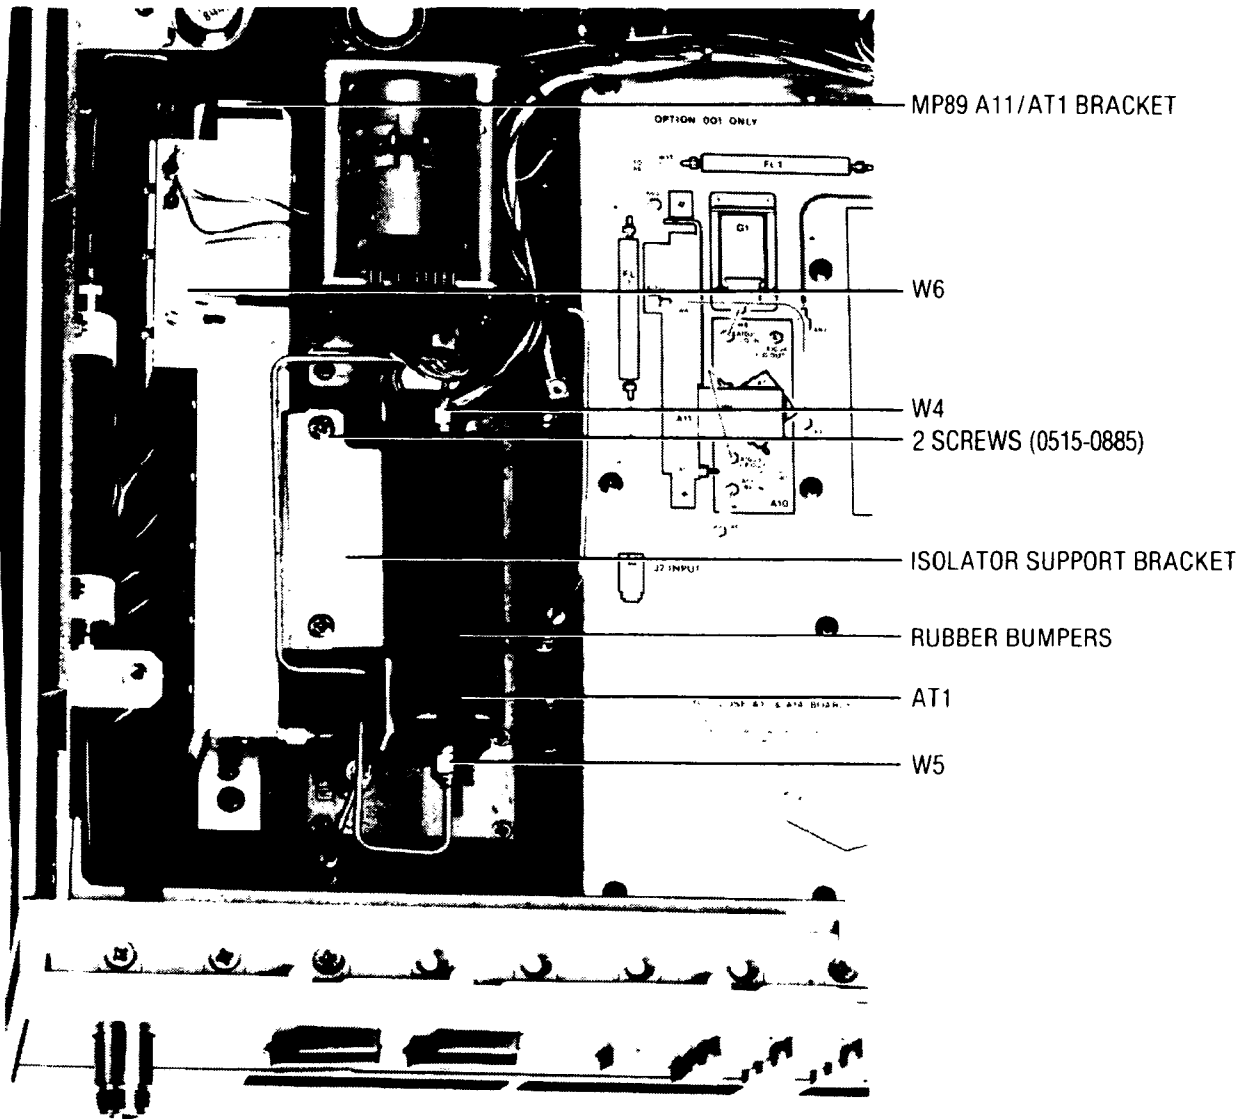

Figure 2. New Parts Identification
9. Connect one end of cable assembly W4 (HP 08970-20036 provided in the kit) to the IF OUT connector on the A10 assembly. Figure 2 shows how the new parts fit into the instrument.
13. Connect cable assembly W6 as shown in Figure 2.